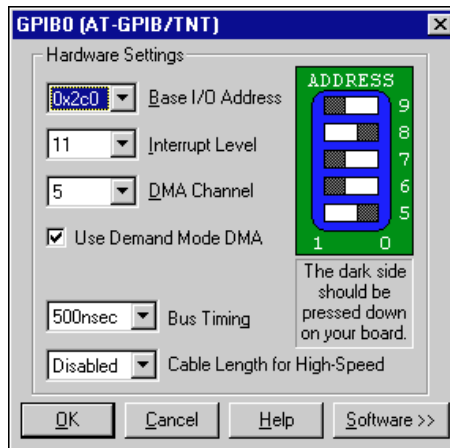

Figure 3-2. AT-GPIB/TNT Configuration Dialog Box
- a. Click on the **Configure** button to bring up the **AT-GPIB/TNT Configuration** dialog box, as shown in Figure 3-2.